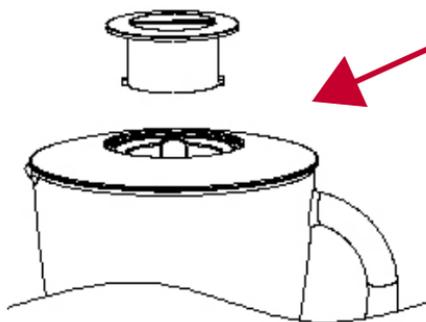

Fig. 7
7. If you wish to add ingredients while the blender is in operation, remove the measuring cup and put the ingredients in through the hole in the lid. (see Fig. 7).